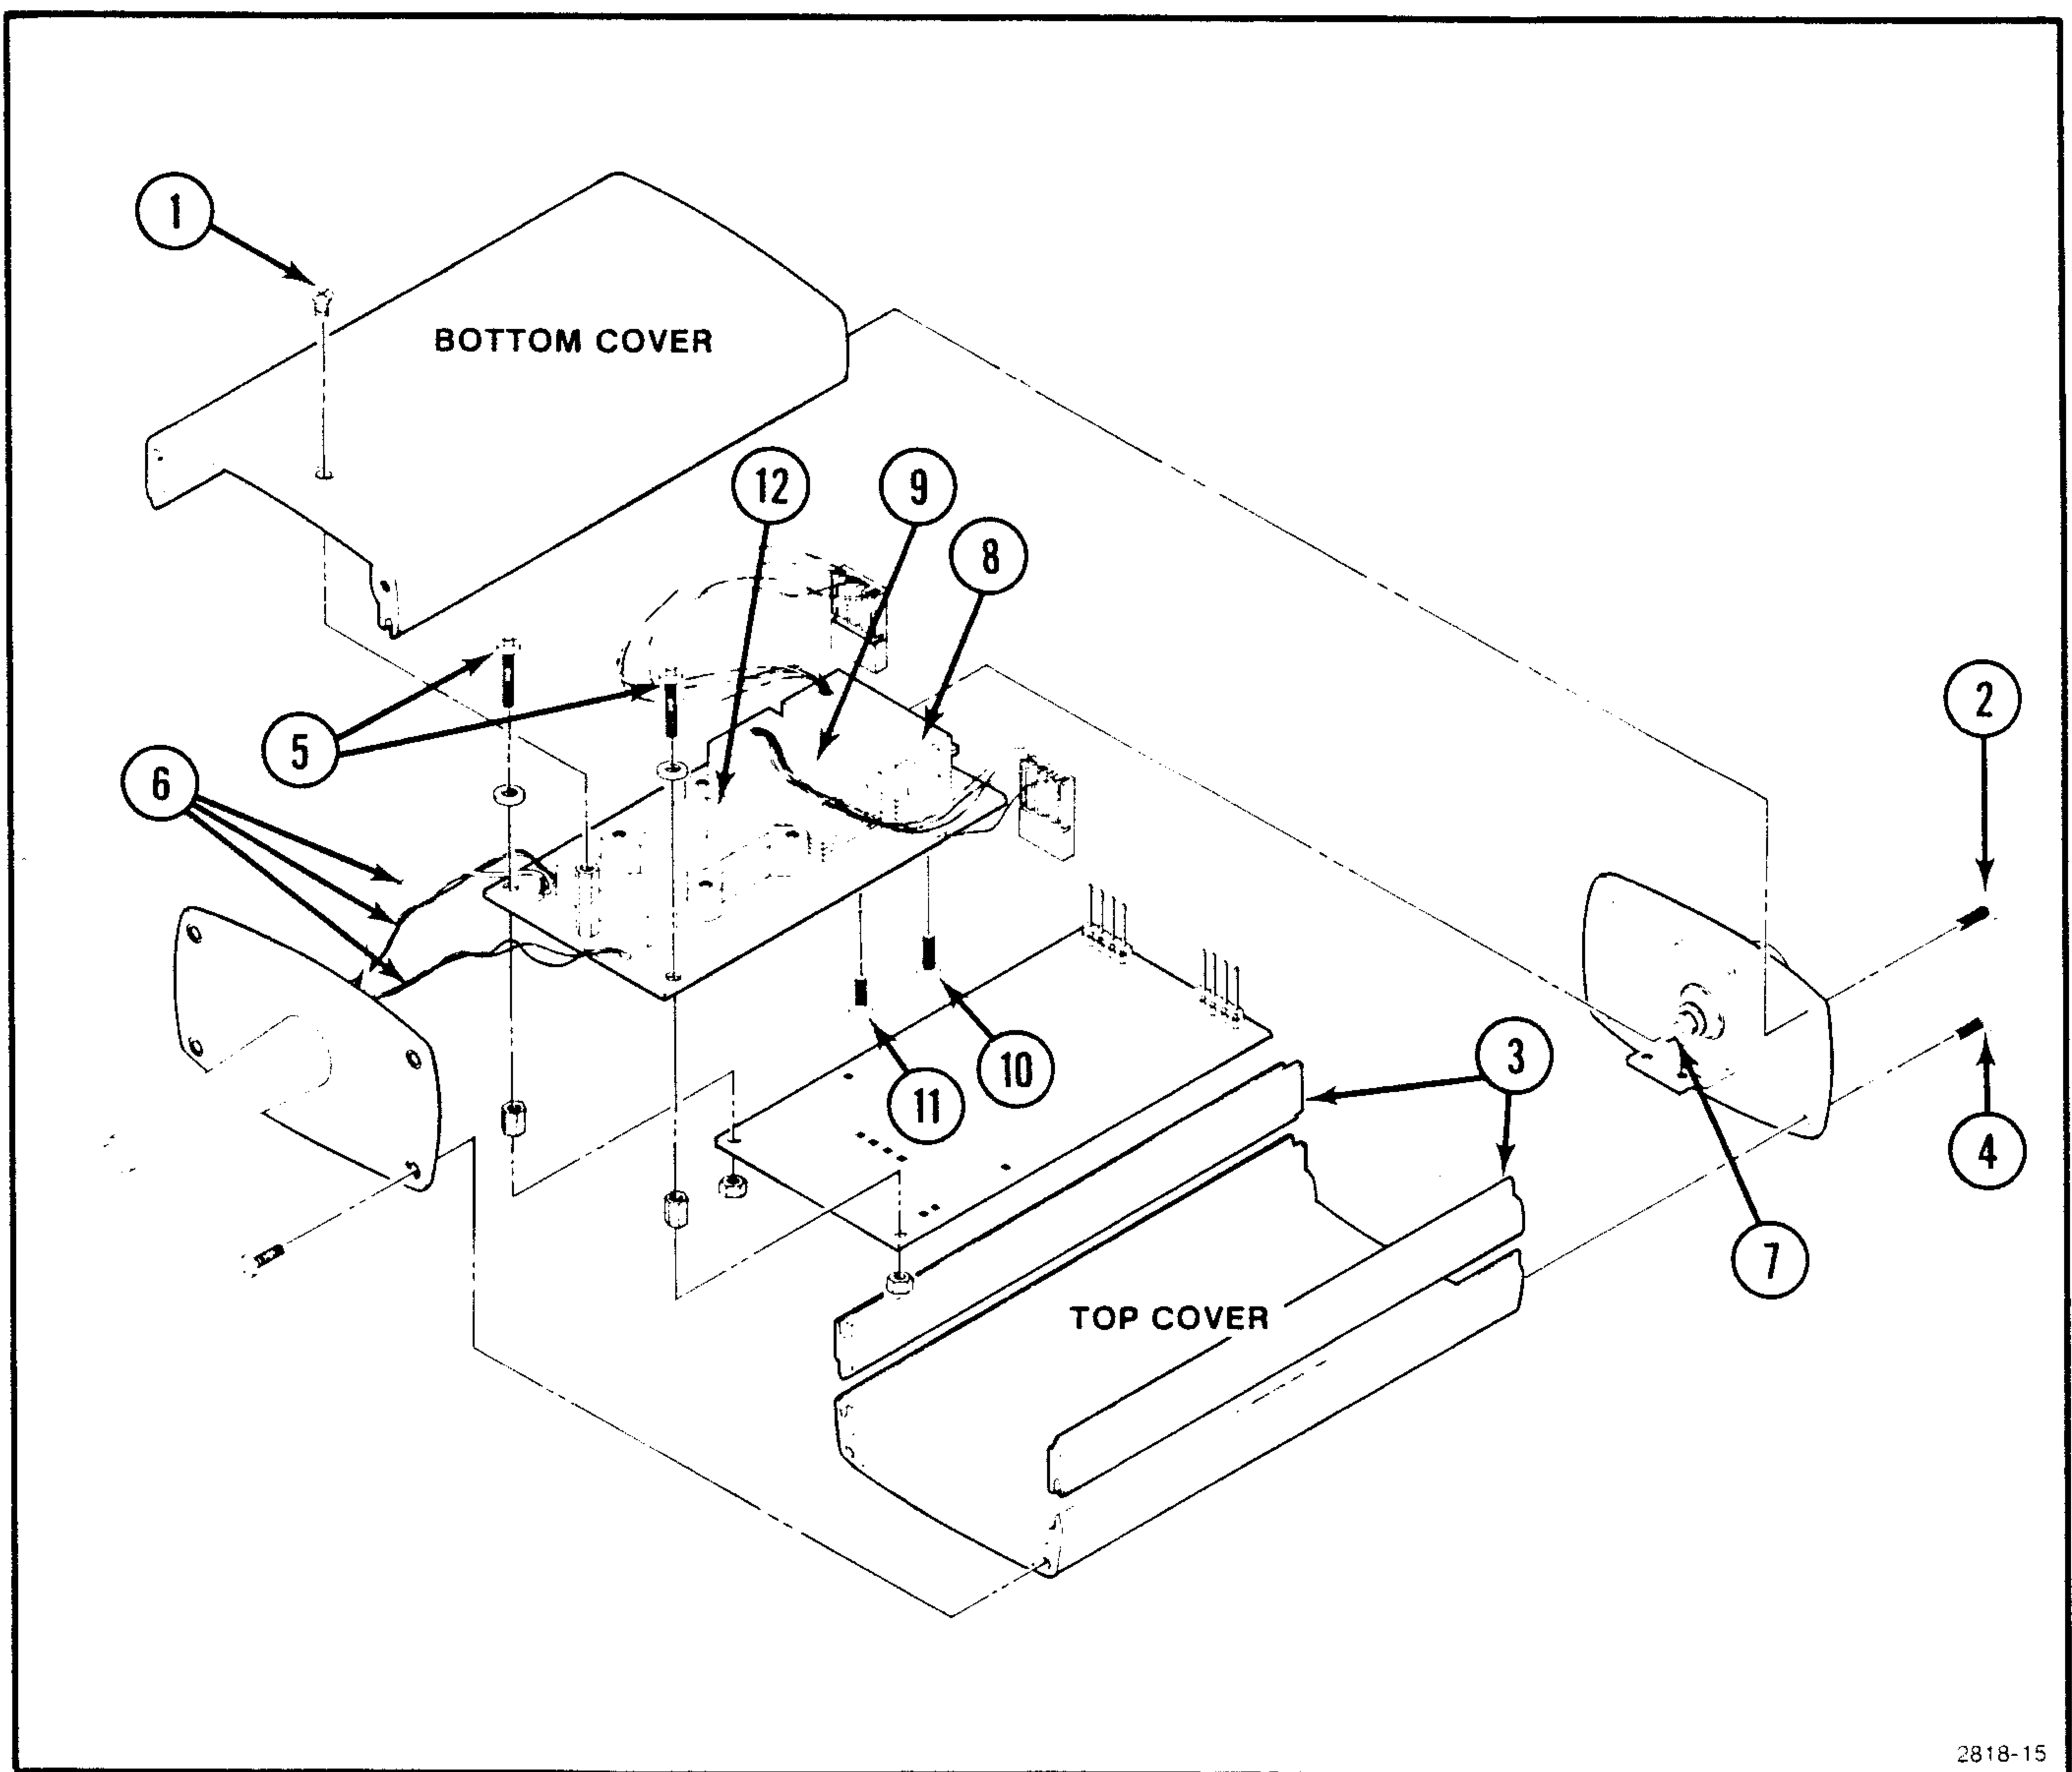

Fig. 5-1. Maintenance diagram (exploded view).
Refer to Fig. 5-1 for the following procedures:
The Hypcon Connector and hybrid IC (see Fig. 5-1, (12)) should be removed if it is necessary to use a cleaning solvent near (1/2") the connector.
Board Removal and Replacement (See Fig. 5-1)
Log Cell Removal and Replacement (Refer to Fig. 5-1)